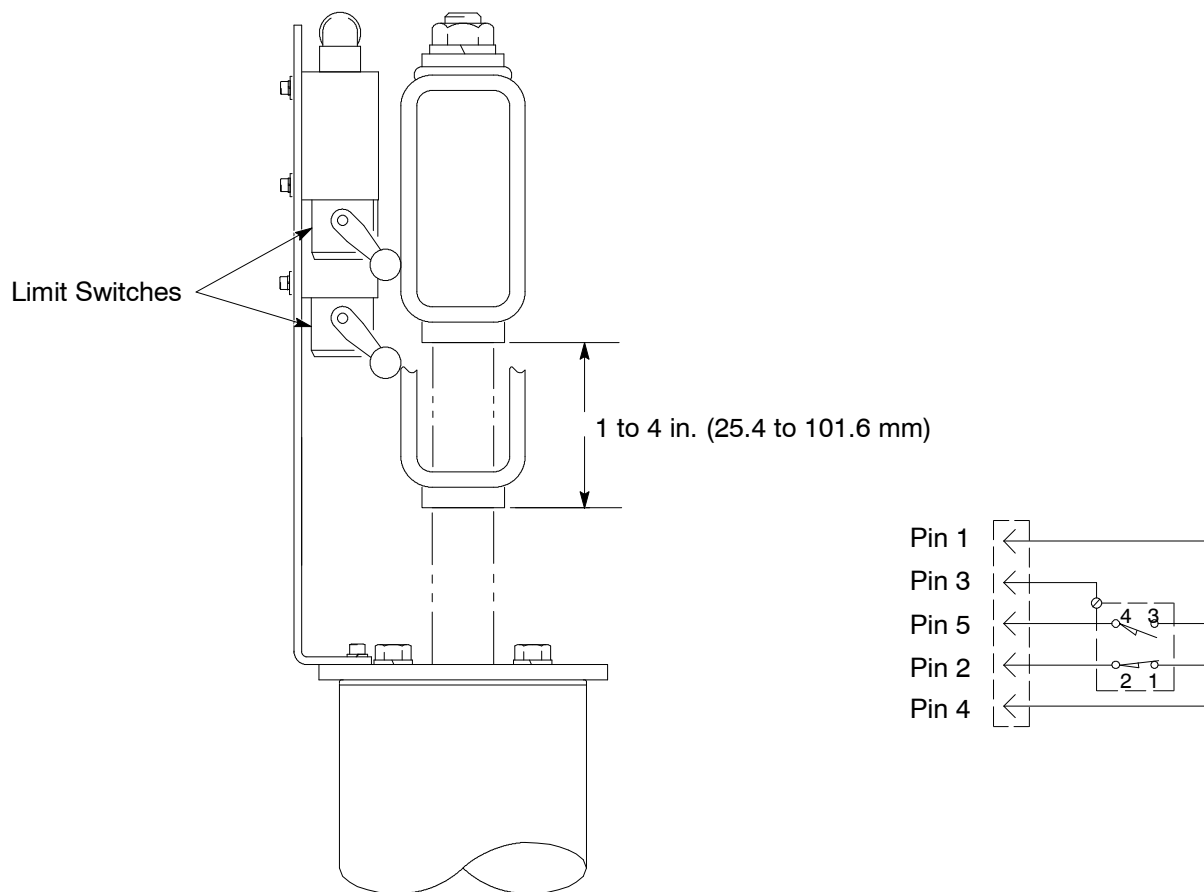

Fig. 6
- c. Adjust the low limit switch to activate at the level defined in step 8.b. See Fig. 6.